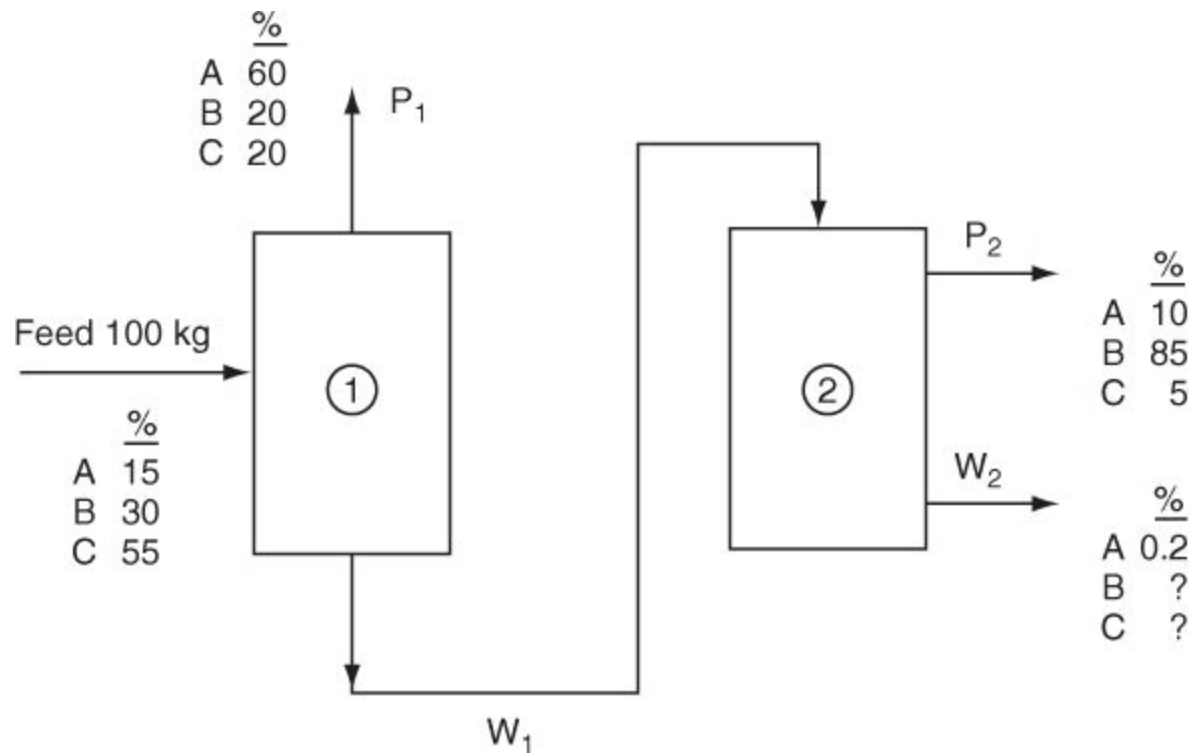

Figure P6.1.6
***6.1.6. In Figure P6.1.6 you see two successive liquid separation columns operating in tandem in the steady state (and with no reaction taking place). The compositions of the feed and products are as shown in the figure. The amount of W_2 is 20% of the feed. Focus only on the material balances. Write down the names of the material balances for each column treated as separate units (one set for each column), along with the balances themselves placed next to the names of the balances. Also, place an asterisk in front of the names of the balances that will constitute a set of independent equations for each column. Write down in symbols the unknowns for each column. Calculate the degrees of freedom for each column separately.